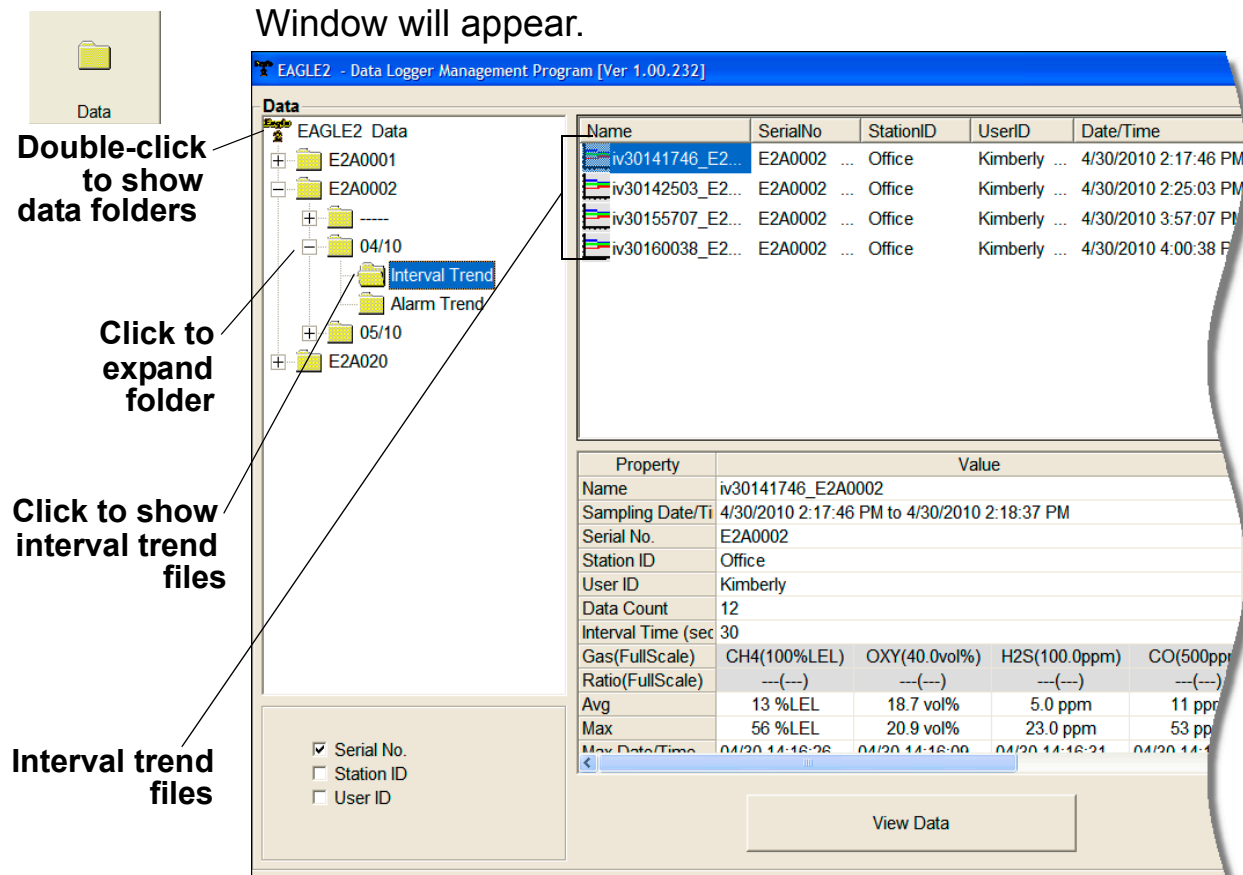

Figure 25: Data Window - Selecting Interval Trend Data Files
- If you click the **Summary** button, the Data Window will split into two frames, one above the other, with the data table in the lower frame and the summary information shown in the upper frame. The summary information is the same as the one shown in the lower right frame in Figure 25. To return to the one frame format, click **Summary** again.
NOTE: The data count shown when you have selected an interval trend data file, as in Figure 25 above, can be more than five if you have events, such as the Eagle 2 going into and out of alarm, but you may not have five scheduled data points.
- If you click the **Summary** button, the data window will split into two frames one above the other with the graph in the lower frame and the summary information shown in the upper frame. The summary information is the same as the information shown in the lower right frame in Figure 25. To